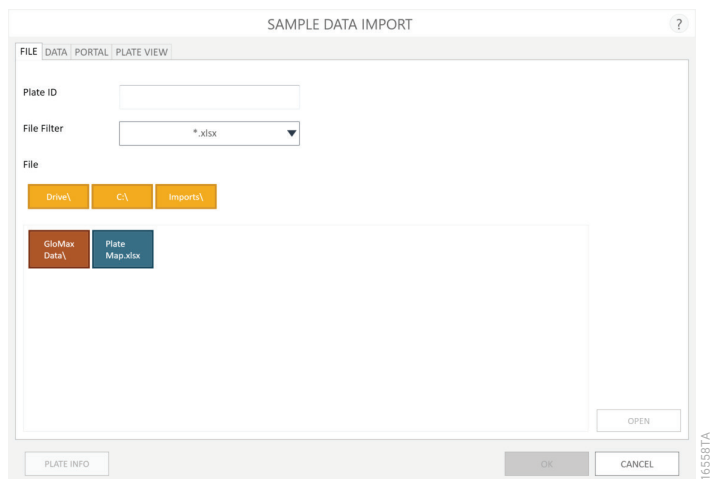

Figure 42. 'Sample Data Import' screen. First screen shown when importing a plate map into the GloMax® Software.
3. Tap the **Import** button located on the right side of the 'Protocol-specific' screen (Figure 41) to display the 'Sample Data Import' screen (Figure 42).
4. On the 'Sample Data Import' screen (Figure 42) provide the following information: